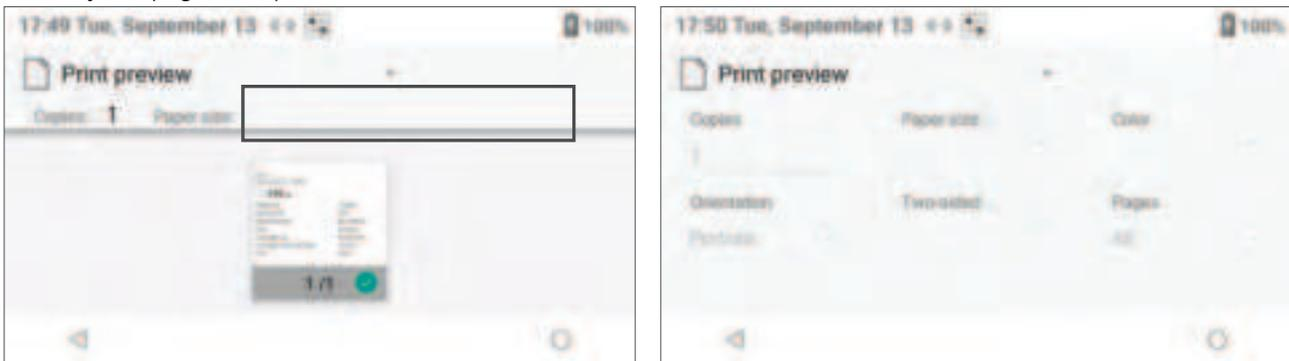

Figure 85: Change Printer Settings
- 1 Select the desired printer and then click on the blank area next to **Paper size** to display printing layout (*Figure 85*).